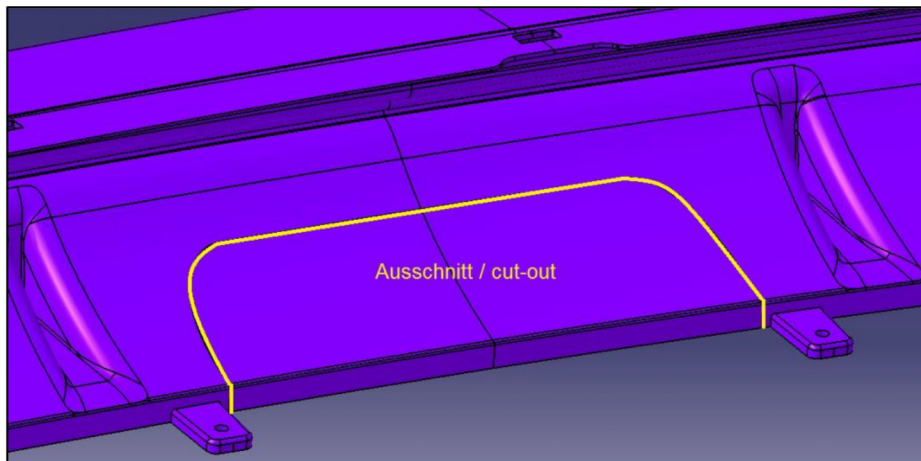

Fig 4: Marking for towbar cut-out
17. Carefully cut the hole marked on the inside of the ABT rear skirt for the tow bar (Fig. 4). Lightly deburr the cut edges and remove residue.